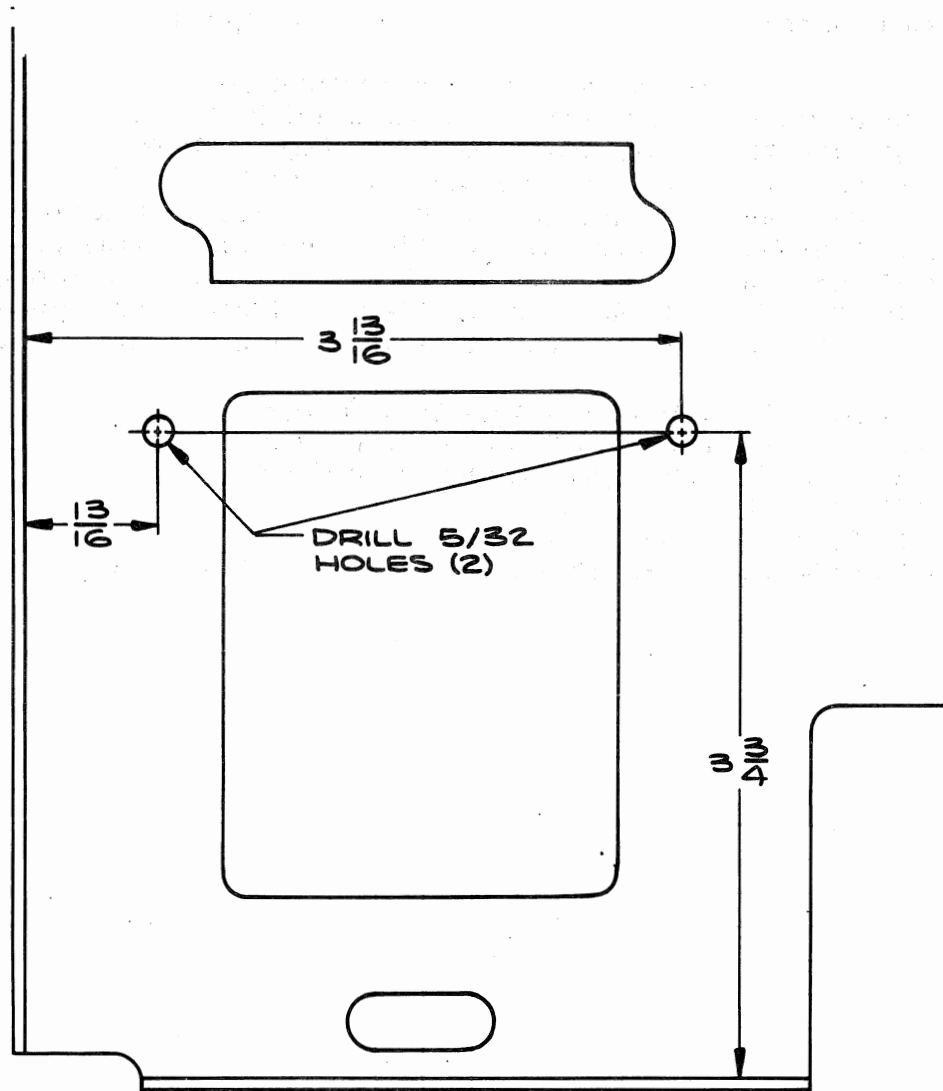

Fig. 1
- ( ) 1. Drill two 5/32 in. holes in the bulkhead, at the rear of the left plug-in compartment, as shown in Fig 1.